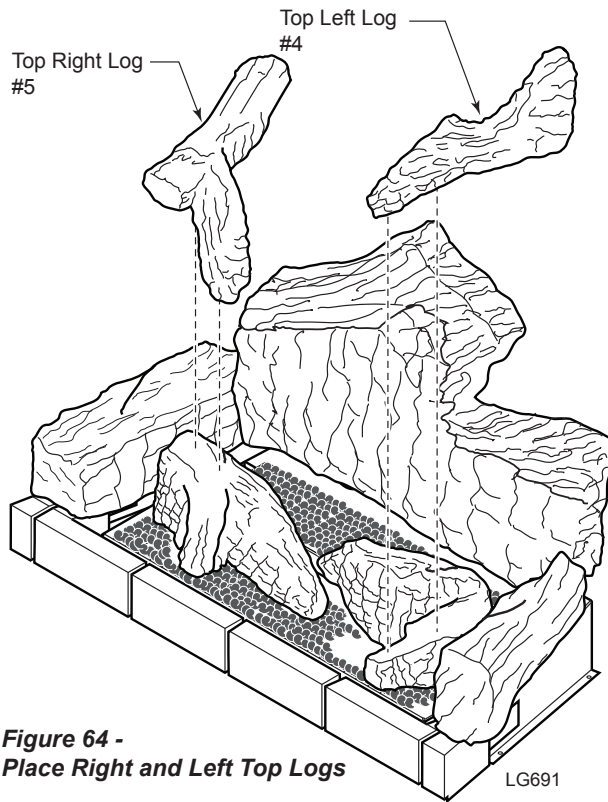

**Figure 62 -
- Place bottom left log (#2) on two pins against left side of firebox. *Figure 62*